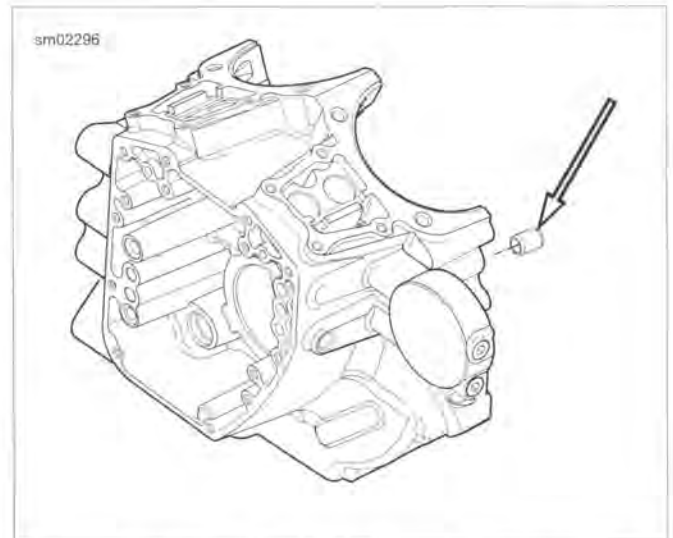

Figure 3-113. Right Crankcase Forward Dowel Pin (Rear Dowel Pin Not Shown)
5. See Figure 3-113. Remove two dowel pins in split line face of right case half.